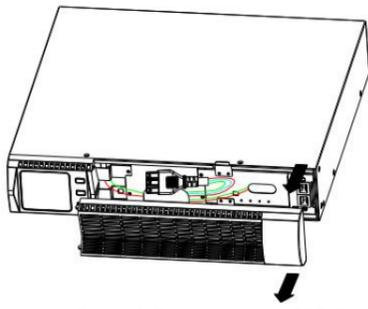

Figure1 Removing the EBP Front Cover
1. Remove the front cover of each EBP (see Figure 1). Press the panel side with LCD display, hold the other side and quickly extract it, then extract the other side with display. (see Fig.1)